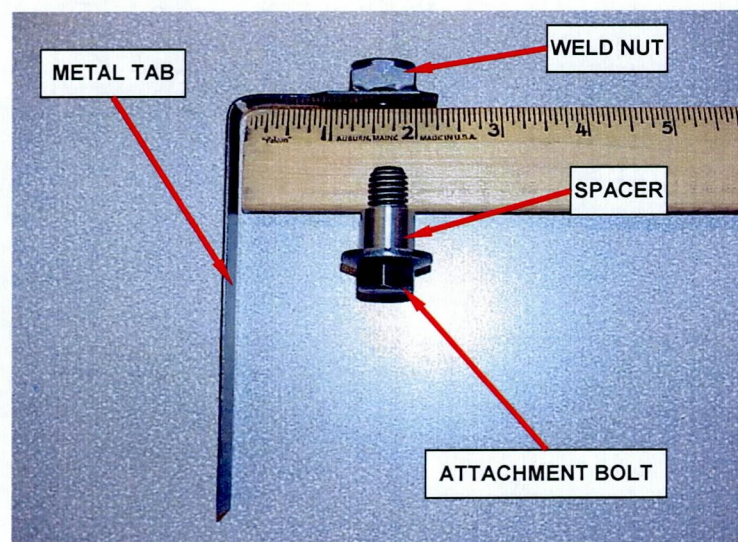

Figure 6 – Handle Nut Tab Bending Procedure
a. Place a mark on the metal tabs of all four handle nuts at $2\frac{1}{4}$ inches from the nut end. Align the mark on the tab in a vice and bend the tab at a 90 degree angle in the direction opposite the weld nut. Repeat this procedure on all four handle nuts (Figure 6).
- b. Insert the four supplied spacers on the four supplied attachment bolts (Figure 6).